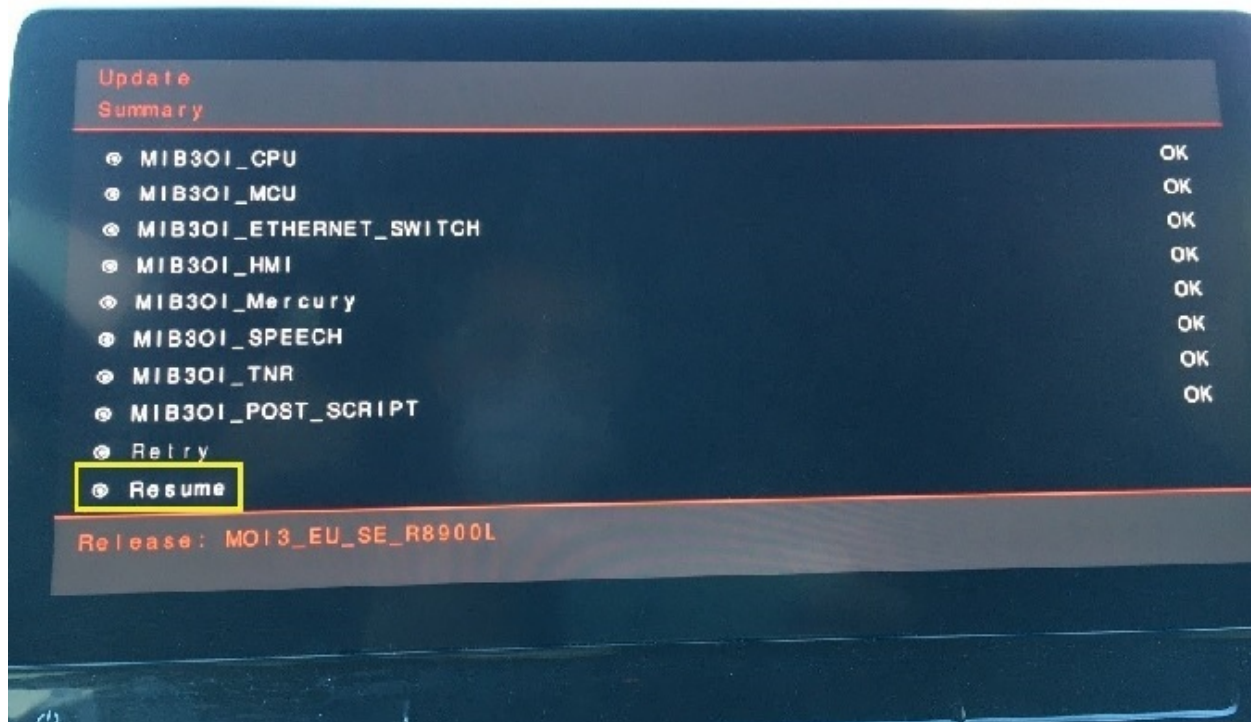

Figure 4: "Update Summary" of the radio and navigation system
- Press the button: **"Resume"** (see Figure 4, yellow rectangle).